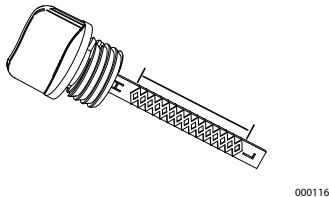

Figure 4-3. Safe Operating Range
4. Screw dipstick into filler neck. Verify oil level is within safe operating range. See **Figure 4-3**.